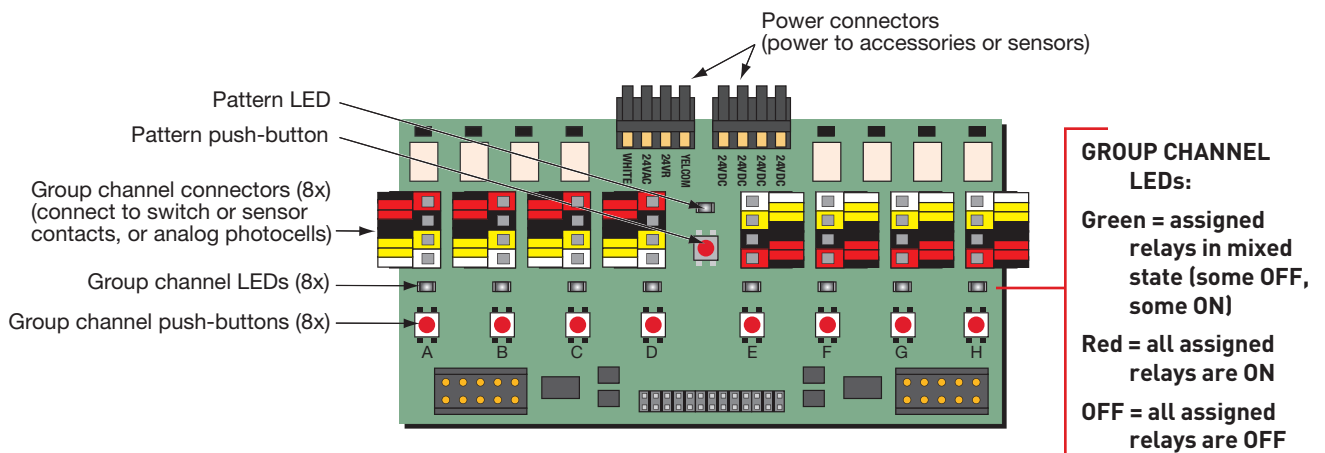

Figure 8: Group Switching card connections and components
3. At the panel, press and release the Relay Control Button associated with each relay to be controlled by the blinking switch button (see Figure 8).
The Group Switching card (Figure 8) provides eight channels (A-H), which may be Smartwired to relays within the panel. Channels are used to group relays for common control from non DLM switches.